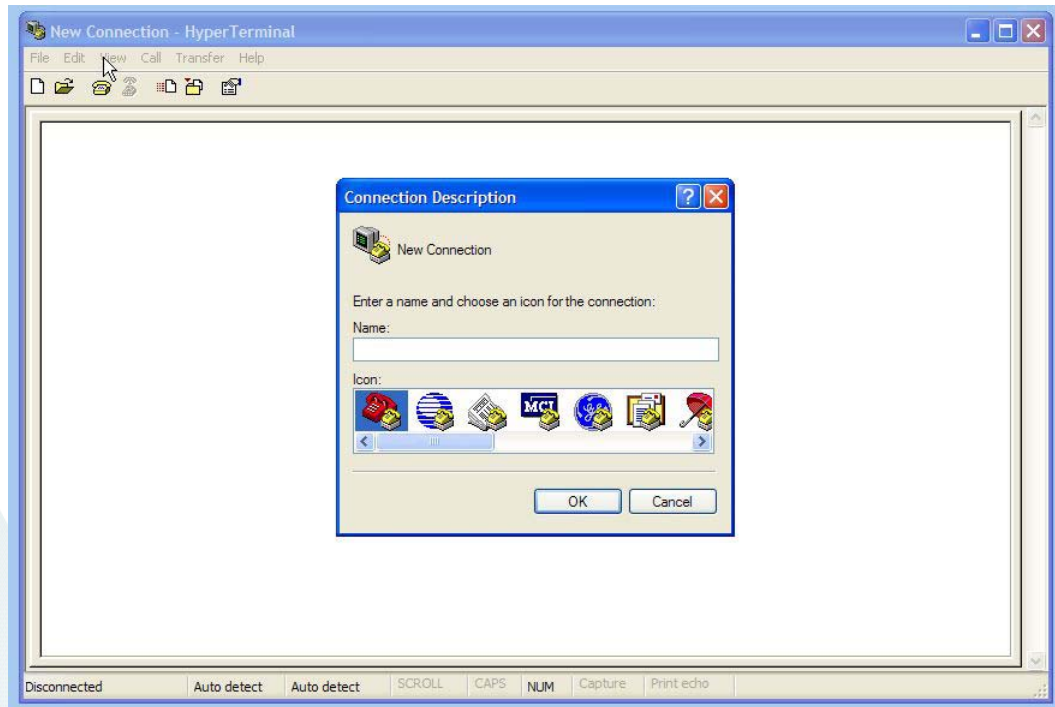
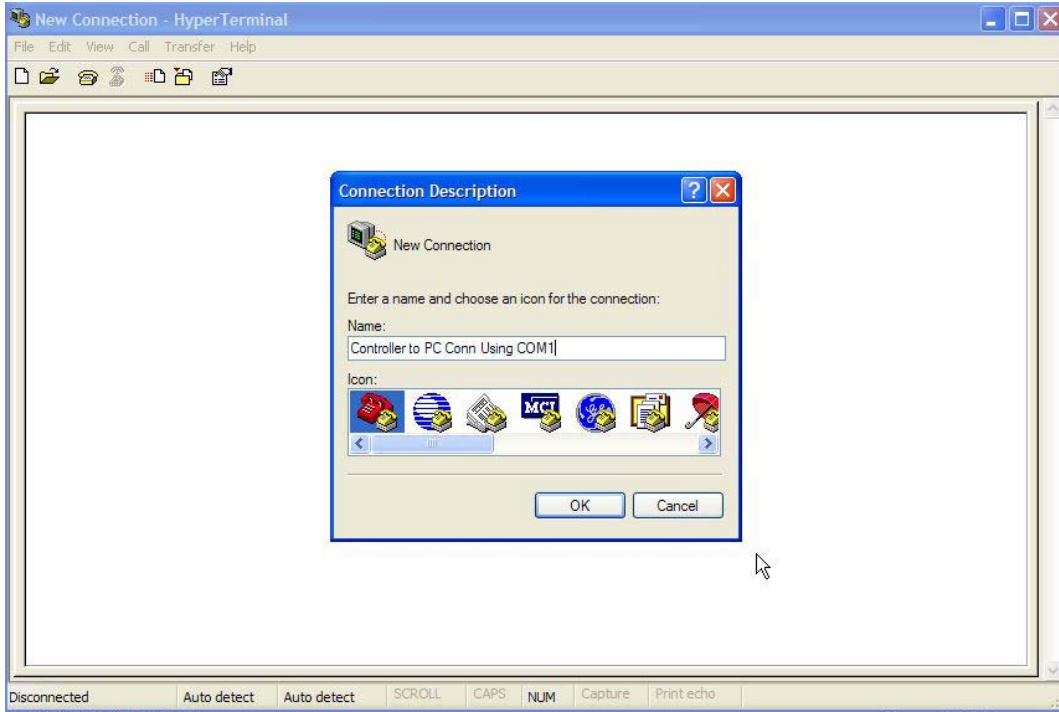

Figure 2 HyperTerminal Start Screen
Figure 3 Type in a Connection Name
11. The HyperTerminal program will open on the screen (See Figure 2 HyperTerminal Start Screen). A "Connection Description" dialog box will open (See Figure 3 Type in a Connection Name)